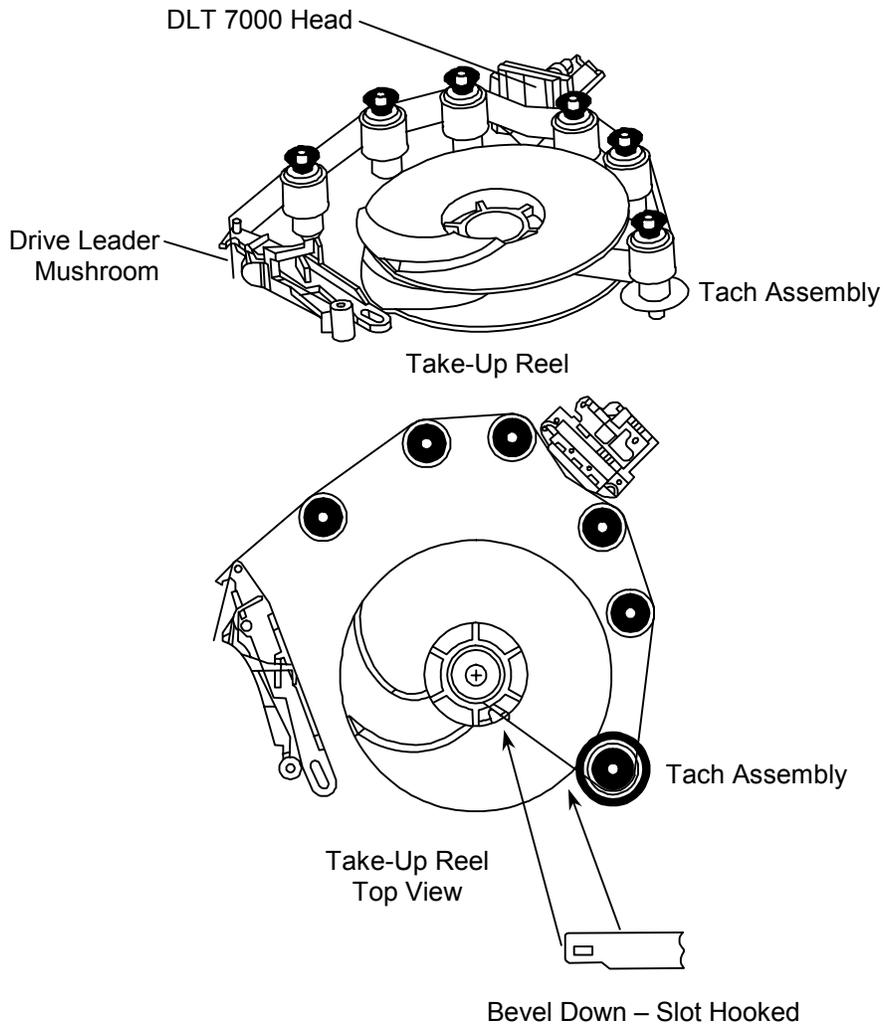

Figure 5-26 Drive Leader Attachment and Path
11. Very carefully slide the leader in front of the head positioning the leader so that it enters the tape path and passes around all six rollers. Refer to Figure 5-26. Each roller has a flange that holds the leader in alignment and the mushroom end of the leader will protrude into the rear of the drive receiver.